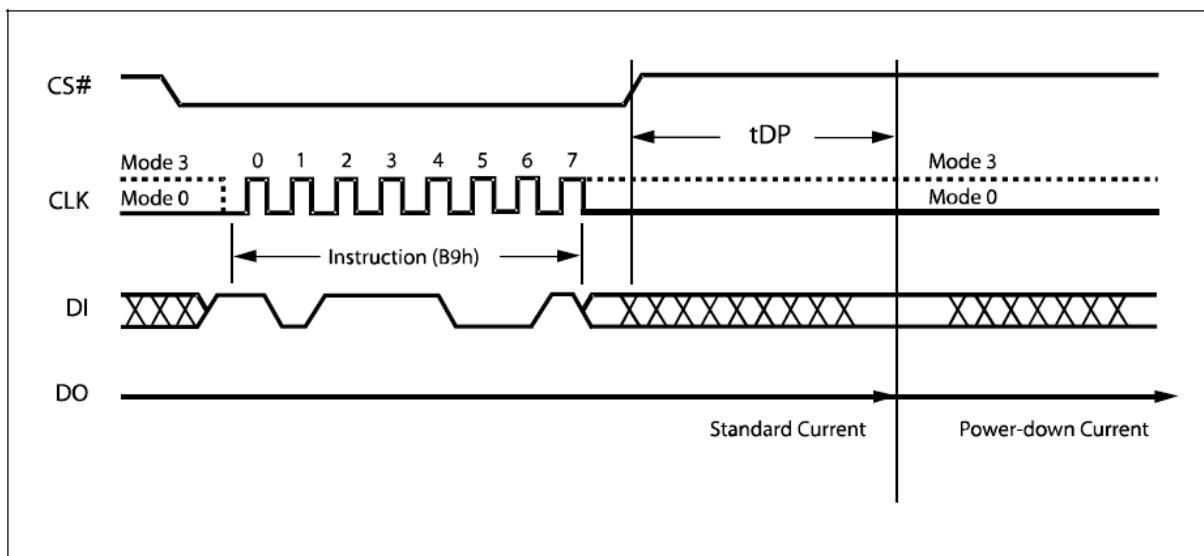

Figure 17. Deep Power-down Instruction Sequence Diagram
The instruction sequence is shown in Figure 17. Chip Select (CS#) must be driven High after the eighth bit of the instruction code has been latched in, otherwise the Deep Power-down (DP) instruction is not executed. As soon as Chip Select (CS#) is driven High, it requires a delay of  $t_{DP}$  before the supply current is reduced to  $I_{CC2}$  and the Deep Power-down mode is entered.